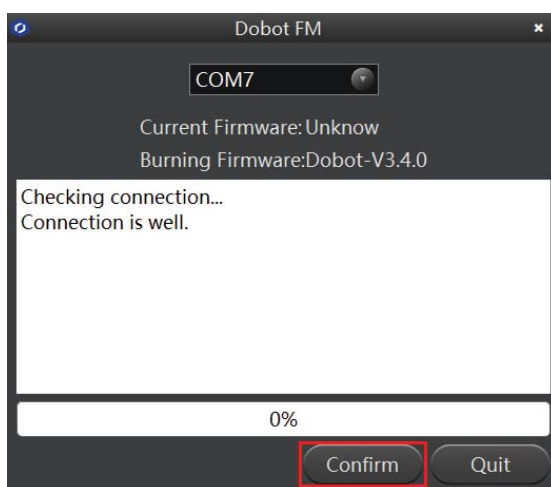
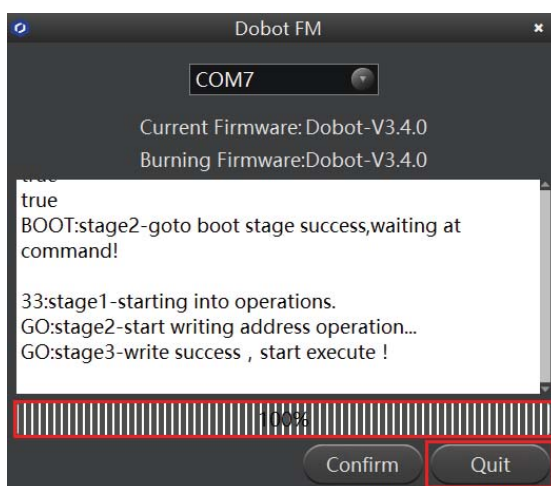

Figure 5.40 Click **Confirm**
Figure 5.41 The firmware upgrade is successful
3. Click **Confirm** to upgrade the Dobot firmware, as shown in Figure 5.40. When the upgrade process bar shows 100%, and a short beep sound is heard, it means that the firmware is upgraded successfully, as shown in Figure 5.41. In this case, the LED indicator turns from red to green. Then click **Quit** to exit.